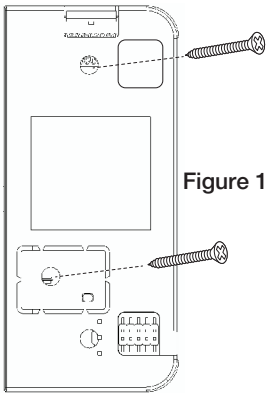

Figure 1
- Make sure the alignment arrow on the magnet points to the alignment mark on the sensor (see **Figure 1**).